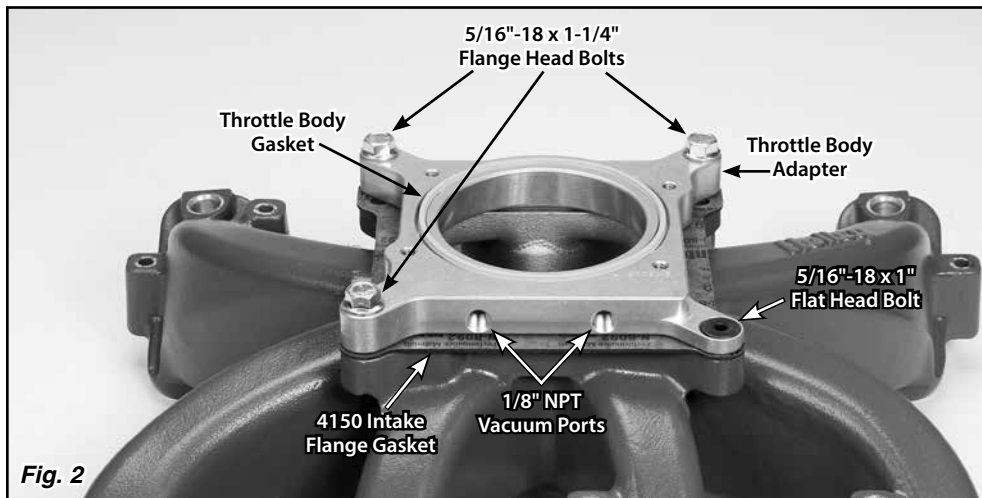

Fig. 2
The throttle body adapter has one mounting ear that is not as tall as the others and has a countersunk bolt hole in it. That corner is where the throttle body motor and electrical connector will be, and it will be at either the driver side rear or the passenger side front corner. Install the throttle body adapter whichever direction will work the best in your application. **Fig. 2**
Step 4: Install three 5/16"-18 x 1-1/4" flange head bolts into the regular holes in the throttle body adapter, and one 5/16"-18 x 1" flat head bolt (3/16" Allen wrench size) into the countersunk hole. Tighten each bolt in a criss-cross pattern to 7 lb.-ft. **Fig. 2**
Step 5: Install the throttle body gasket into the groove on the top side of the throttle body adapter. **Fig. 2**